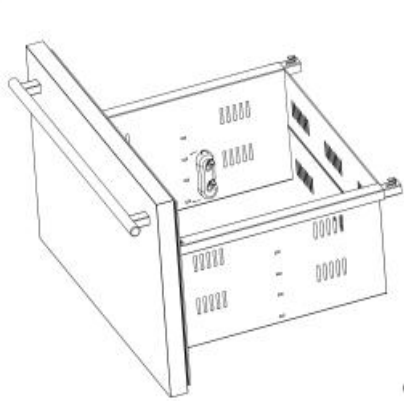

Figure 1
**Étape 1:** To install 1pc right and 1pc left divider permanent seat on the two side on upper drawer (figure 1) and lower drawer (figure 2)